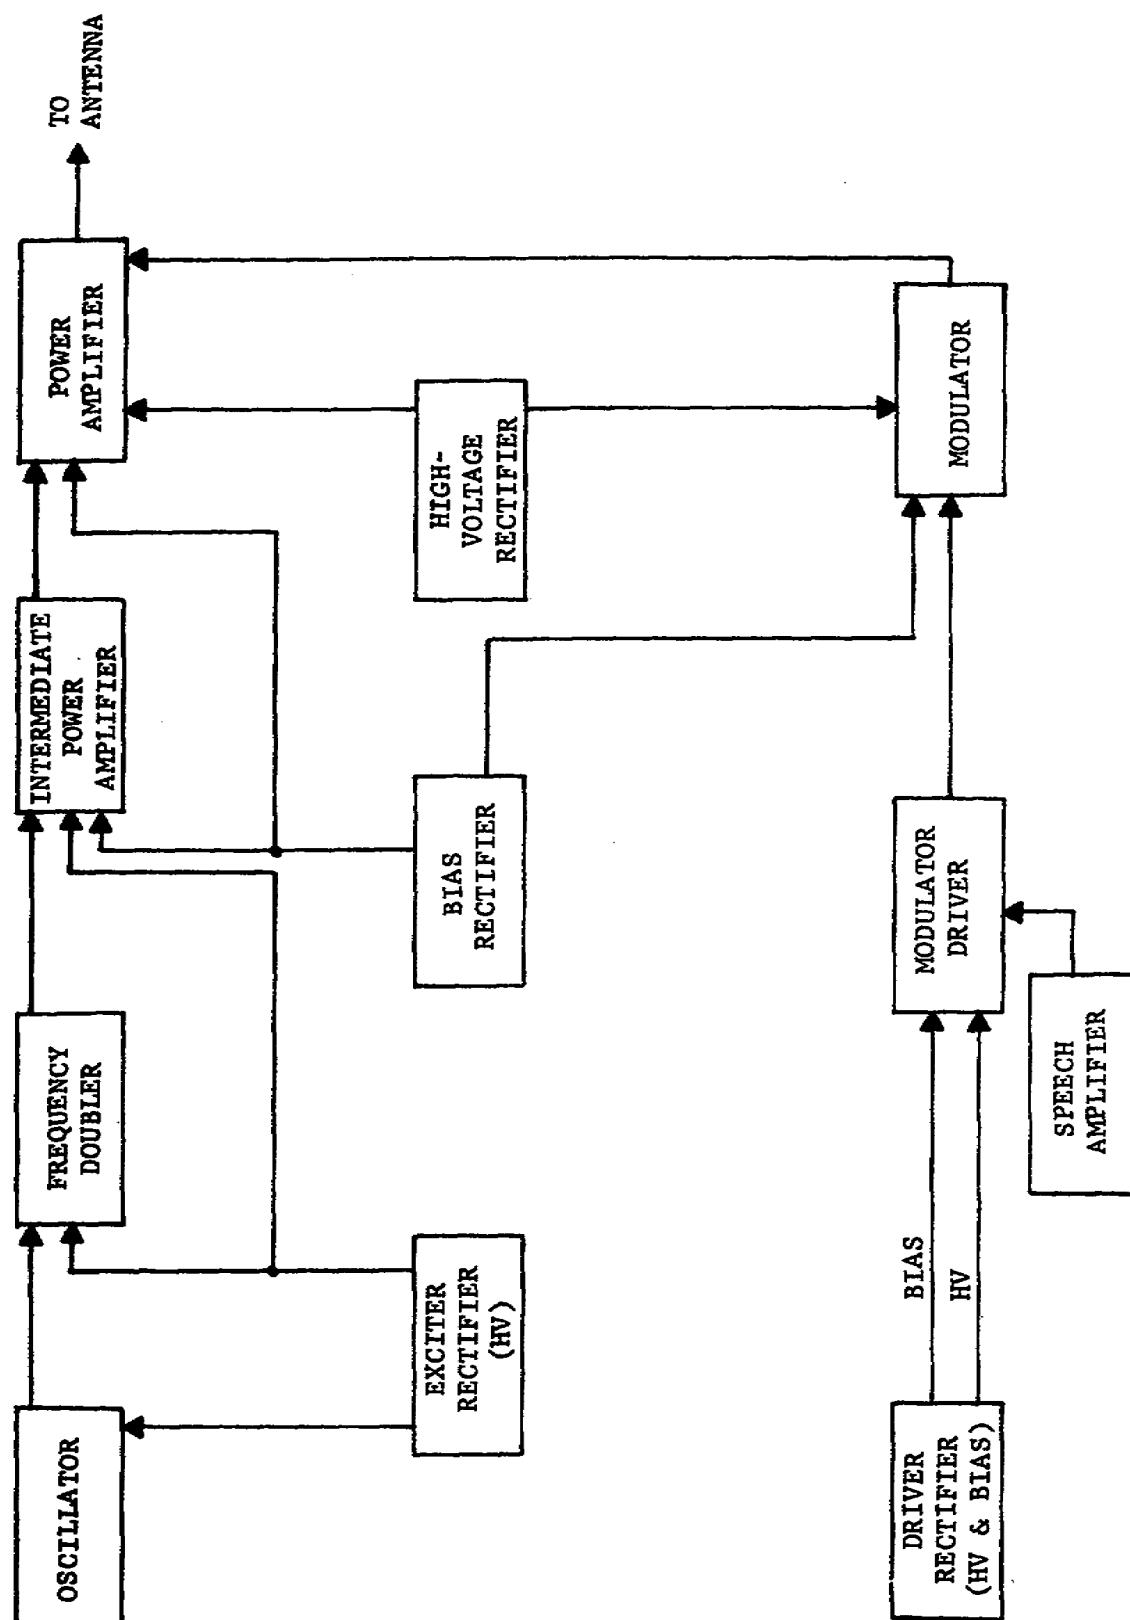

Figure 4-1. Block diagram of a typical radiotelephone transmitter.
Part of the procedure for troubleshooting a radio transmitter is to localize the trouble to a stage. A block diagram of the transmitter is of great value during this step of the troubleshooting procedure. The block diagram portrays the various stages of the transmitter and shows the interstage connections. A knowledge of what each stage of the transmitter is designed to do will speed the localizing step. Once the trouble has been localized to a stage, the schematic diagram can be used to isolate the trouble to a component. The following is an analysis of the block diagram of a typical high-powered radiotelephone transmitter shown in figure 4-1.
20. In figure 4-1 of the attached memorandum, one block represents all the components and tube or tubes used in the modulator stage. What determines the circuit arrangement and class of amplifier used in this stage?